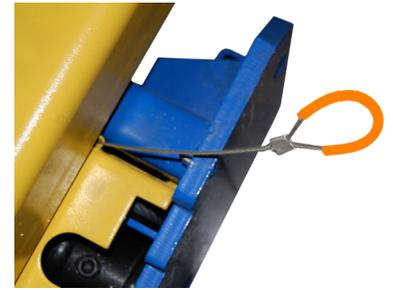

Fig. 2
5. Be sure to clean all dust from hole (fig. 2).
Press the up button enough to allow the safety locks to be disengaged. Pull both latch releases Fig. 2 to release the safety locks.
12. Lower vehicle by pressing the Up button to disengage the safety locks. Pull both latch releases to release (Fig. 2) the safety locks then press the lowering handle (Fig. 1) until the lift is completely lowered.